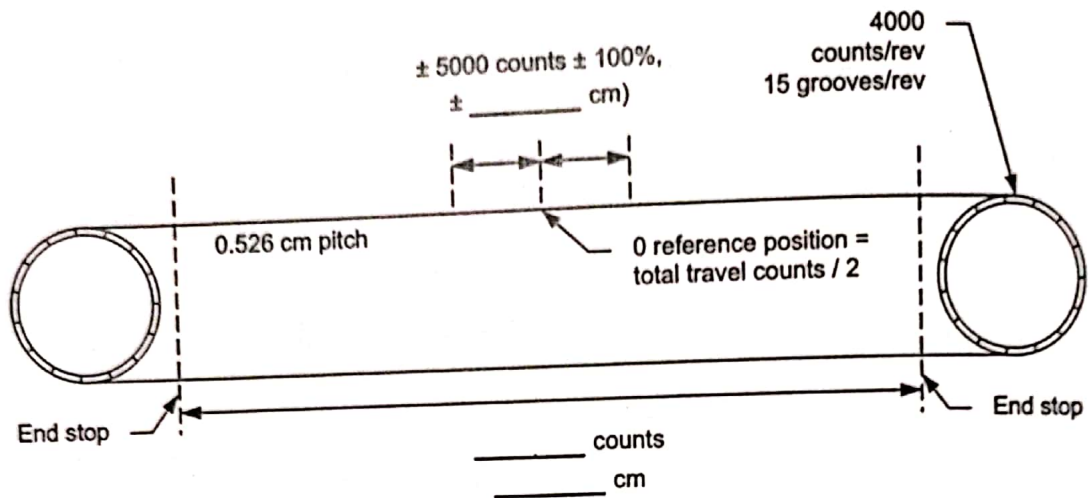
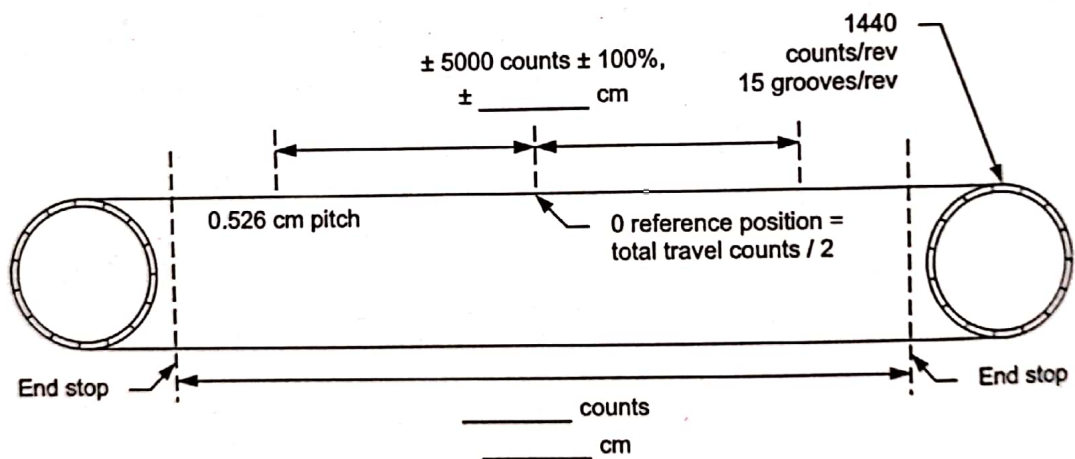

Figure 41. Motor shaft encoder diagram.
Figure 42. Rail encoder diagram.
10. Below are two diagrams representing the platform/belt arrangement. Using the data from Table 28, complete Figure 41 and Figure 42 by filling in the blanks.